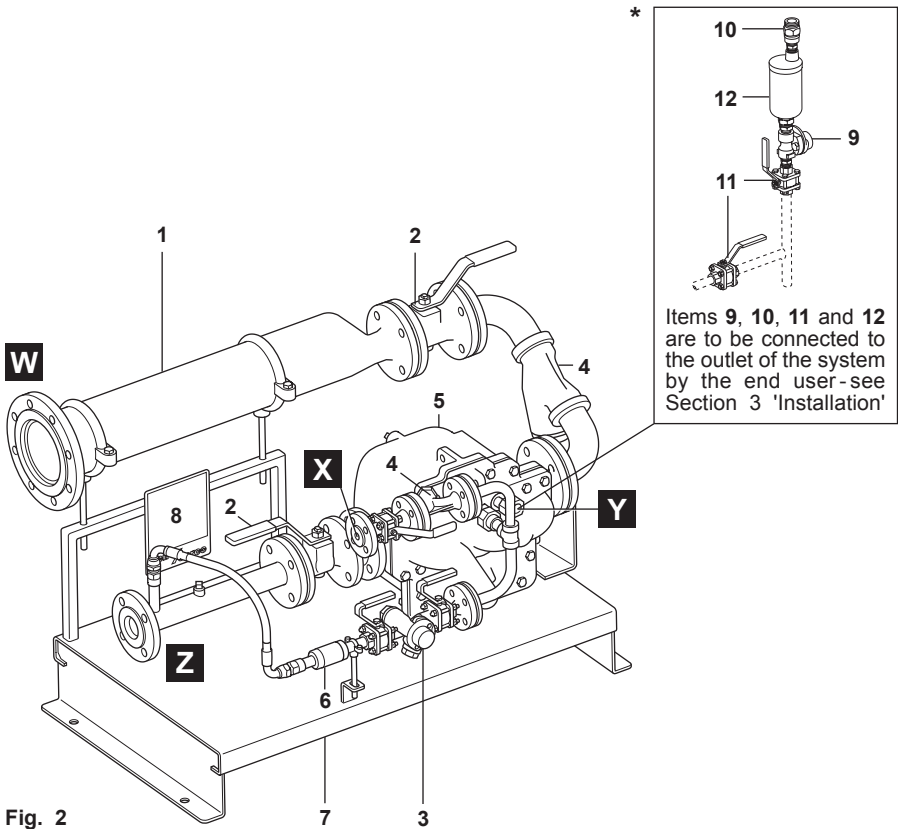

Fig. 2
3.3 Connections (refer to Figures 2 and 4)